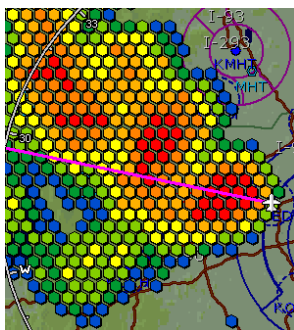

Figure 2.2 TWXCELL Mode Display
- ◆ **TWXCELL** - If Wx Ovly is set to TWXCELL, the EX5000 displays thunderstorm cells detected by the TWX670, using colors (Table 2.1) to indicate levels of storm intensity. For example, Figure 2.2 shows an aircraft located at the edge of intense thunderstorm activity. In this instance, the aircraft must be flown away from the thunderstorm. The TWX670 detects and measures lightning strike energy and generates cell data that the EX5000 displays in color. This mode shows dangerous convective areas that you must avoid.